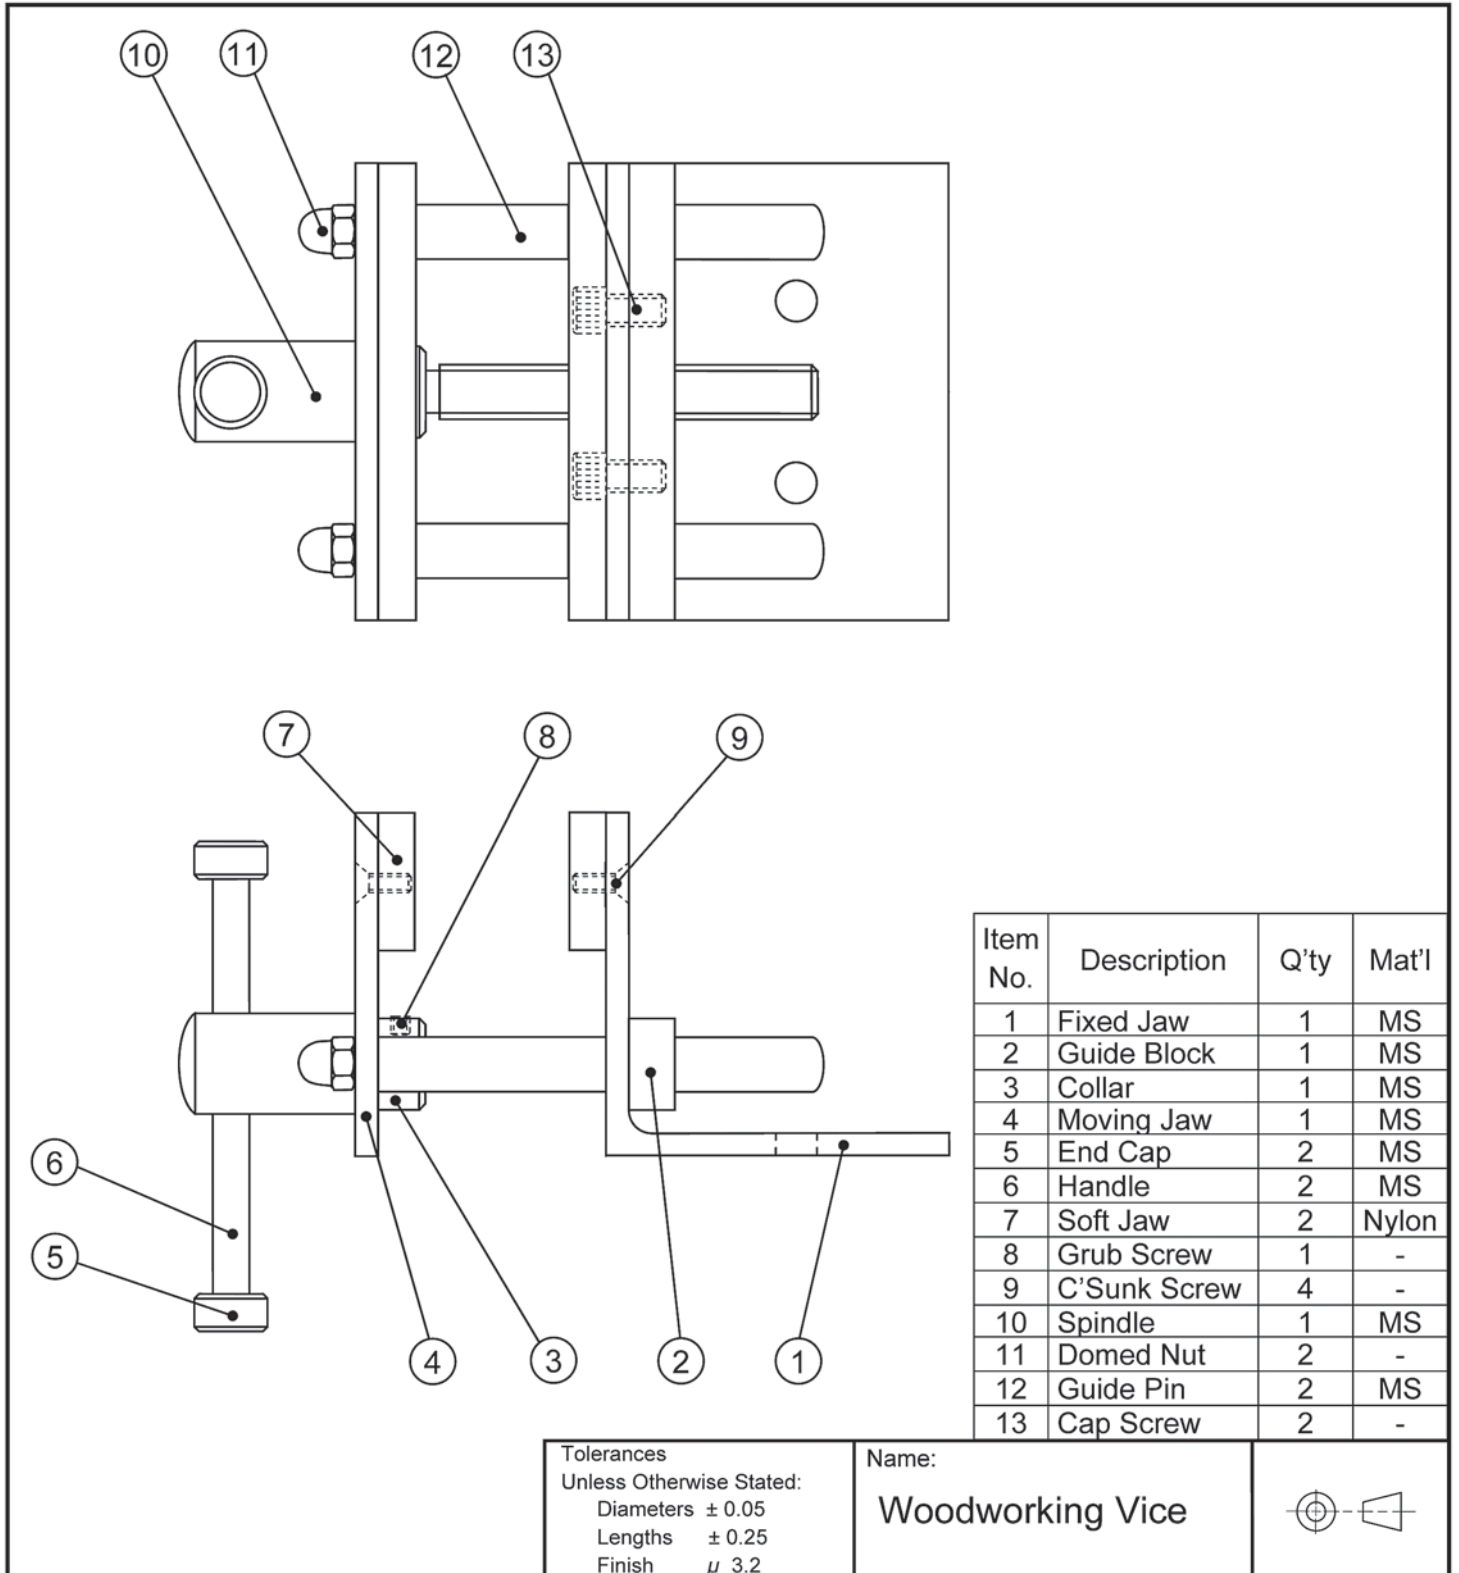

Figure 1
Figure 1 shows an assembly drawing of a vice used for woodwork.
- a. List all the components of the woodworking vice shown in Figure 1 that are commercially available (i.e. do not need to be made).
- c. What is likely to happen if a countersunk screw (item 9 in Figure 1) is overtightened during assembly?
The holes in the fixed jaw and the guide block, in Figure 1 on page 22, need to be accurately lined up so that they match.